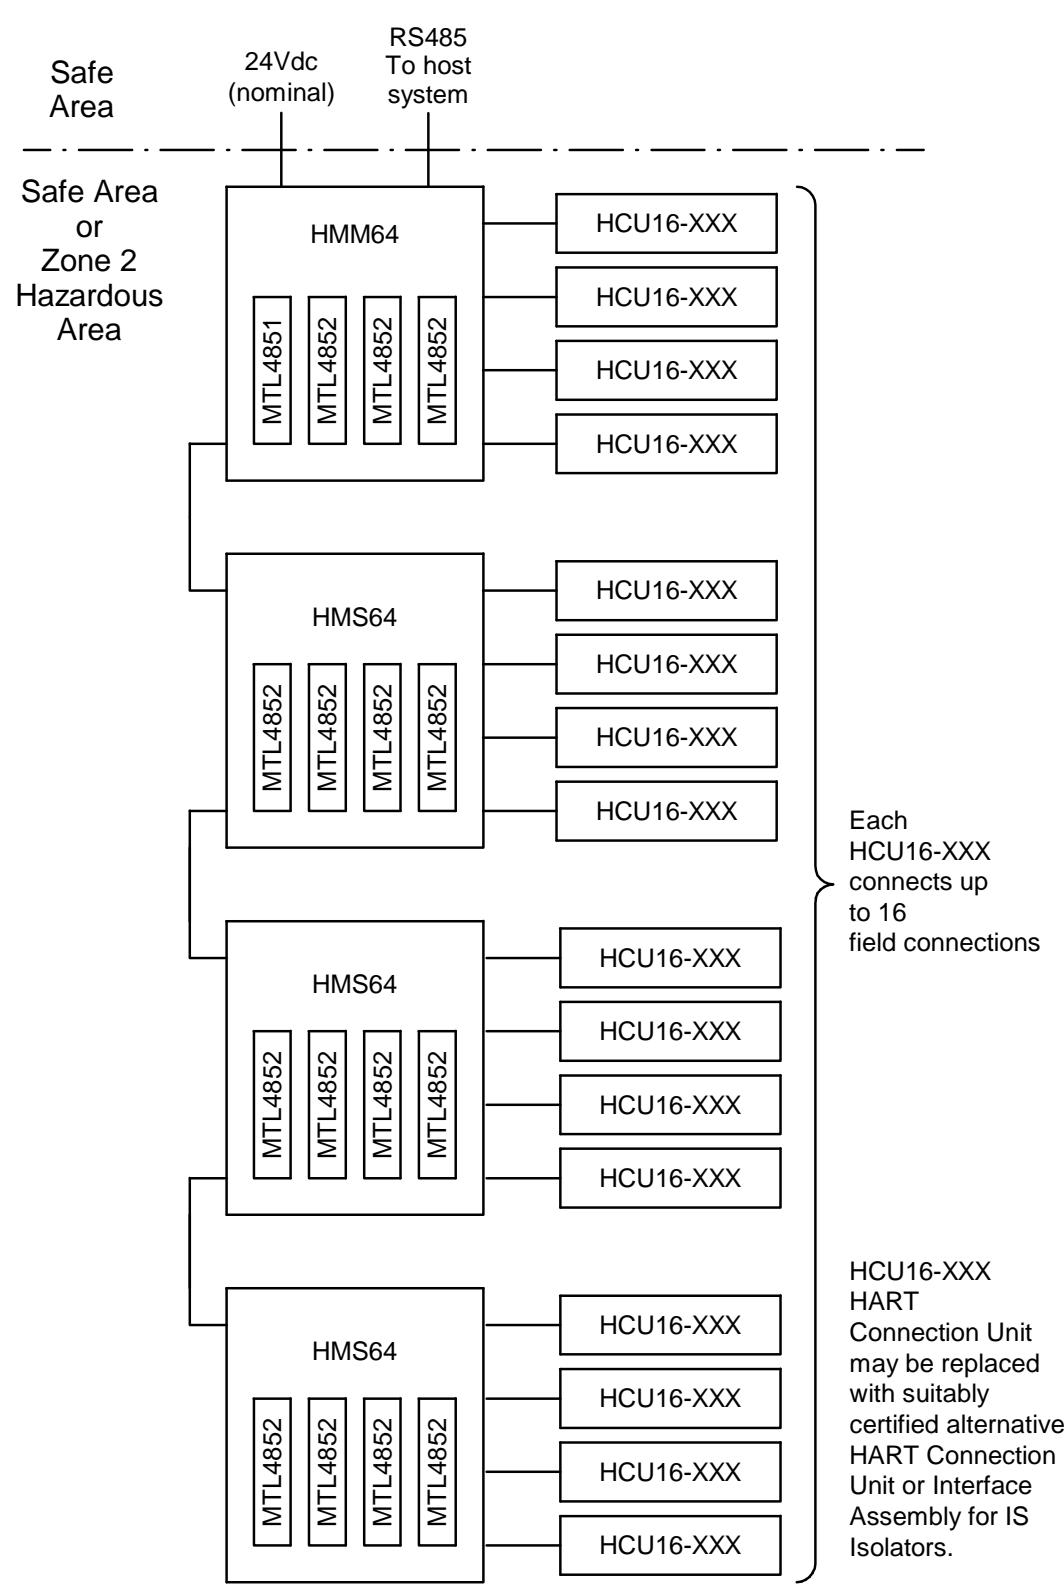

Figure 1 - MTL4851/2 on HMM64 & HMS64 Backplanes
- The MTL4851 & MTL4852 HART multiplexers plug directly into a number of alternative backplanes designed specifically for this purpose. These may be connected in a variety of different configurations as shown in Figures 1 & 2. Suffix -XXX on part numbers indicates alternative series or parallel resistor options used for HART communications, e.g. -S200, -P240, etc.